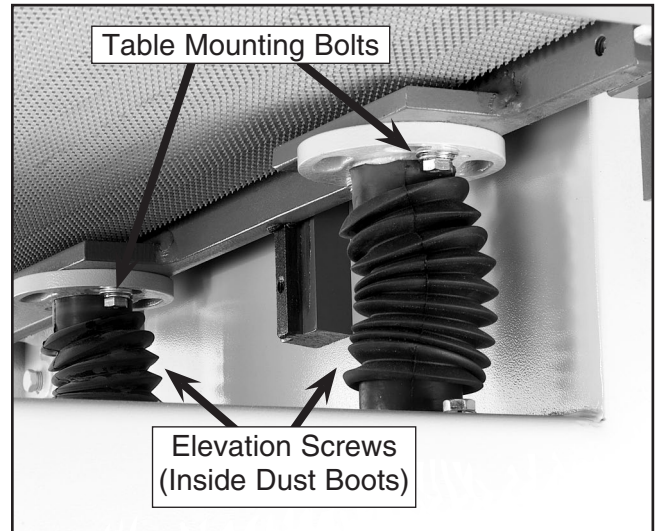

Figure 20. View of table underside.
Adjusting the table parallelism can be a very tedious task that takes a great amount of patience. DO NOT adjust the table unless you are having trouble sanding your workpiece to a uniform thickness. Take precise notes on **any** adjustments you make to **any** of the table elevation screws (**Figure 20**). This will allow the original setting to be re-established.
4. The corners of the table can be independently adjusted up or down by spinning the table elevation screws (**Figure 20**) located under each corner of the table. Note—*The table mounting bolts (Figure 29) need to be removed first.*